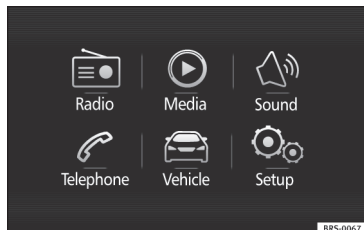

Fig. 42 Easy Connect: Main menu.
- Press the system's (MENU) button, then the system's (Vehicle) function button **»» Fig. 42** or the system's (CAR) button to go to the **Vehicle** menu **»» Fig. 43**.